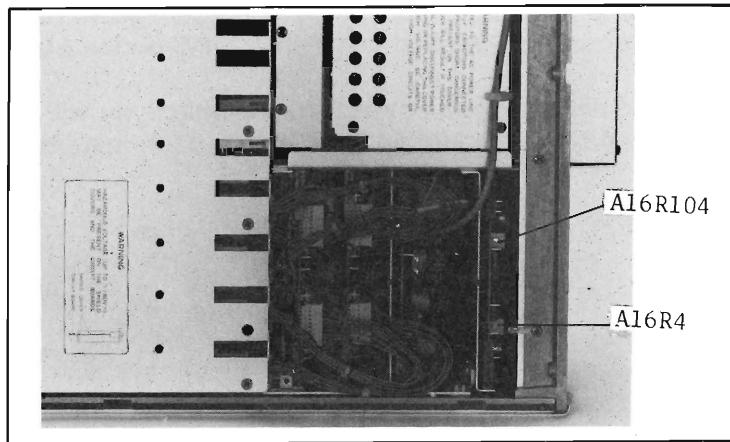

Figure 5-19. Adjustment Point Locations.
- Adjust A16R4 (see Figure 5-19 for the location) for Vm1 gain until VM1 (value displayed on the 4145B) and Vdvm1 (reading on the 3456A) satisfy the following inequality. Then press the STOP key.
- Adjust A16R104 (see Figure 5-19 for the location) for Vm2 gain until VM2 (value displayed on the 4145B) and Vdvm2 (reading on the 3456A) satisfy the following inequality. Then press the STOP key.